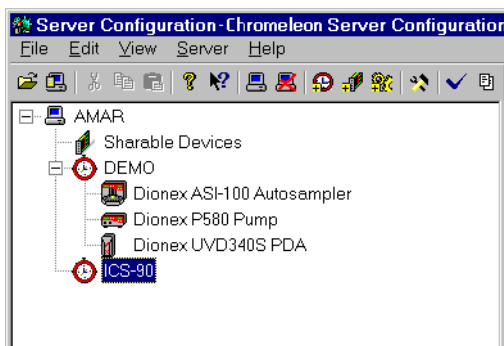

Figure B-8. Example: Creating a Timebase
2. A clock icon appears under the server name with a default name highlighted. To use the default name, press **Enter**. To use a different name, type the name and press **Enter**. Figure B-8 shows an example timebase named ICS-90.